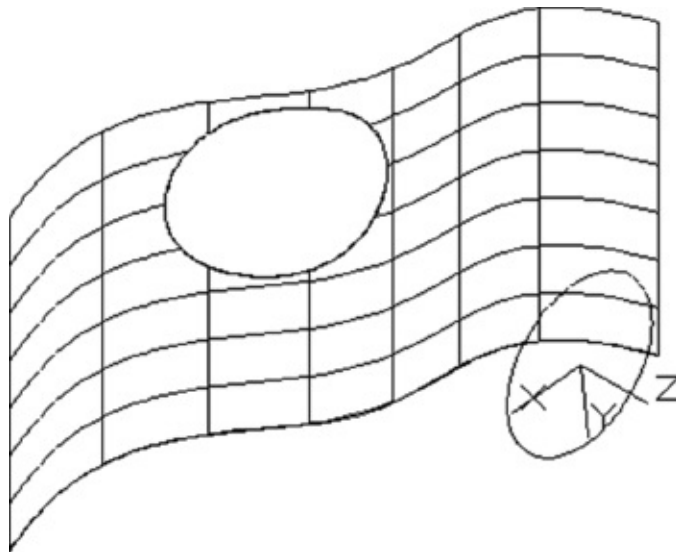

FIGURE 23.59 The circle projected onto the surface
8. Click the surface. The circle is projected onto the surface, and the area inside the projected circle is trimmed (see Figure 23.59).